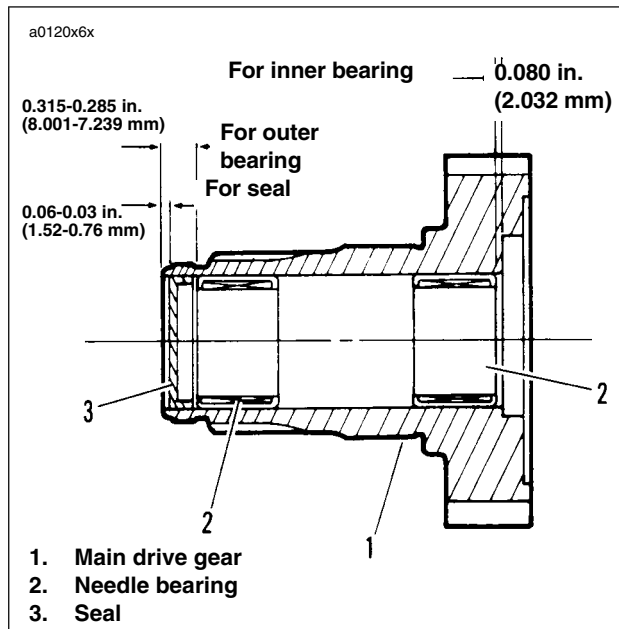
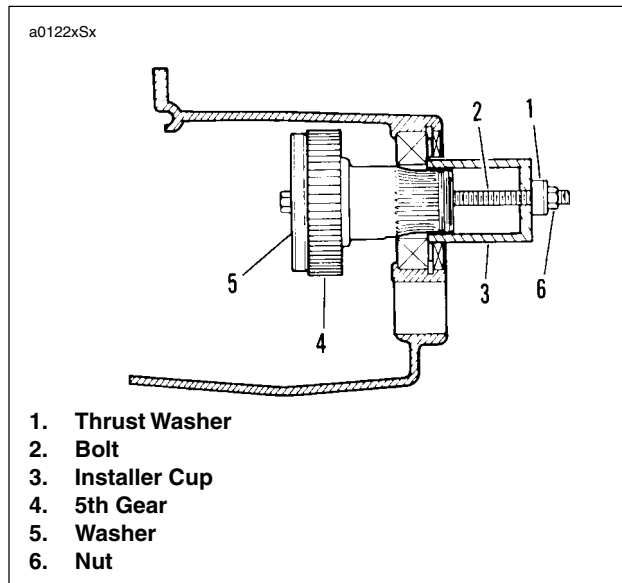

Figure 6-45. Main Drive Gear Assembly
Figure 6-49. Main Drive Gear Installation
3. See Figure 6-45. From inside case tap out seal at end of mainshaft 5th gear. Discard seal.
- See Figure 6-49. Use MAIN DRIVE GEAR REMOVER AND INSTALLER (Part No. HD-35316-A) for assembly.
- Take bolt (2) and place washer (5) followed by main drive gear (4) over end of bolt.
- Insert threaded end of bolt (2) through installer cup (3) and thrust washer (1).
- Thread nut (6) onto end of bolt (2). Tighten nut (6) until shoulder on gear (4) bottoms against inner race of bearing.
- See Figure 6-45. Tap in **new** seal (3) at threaded end of 5th gear.